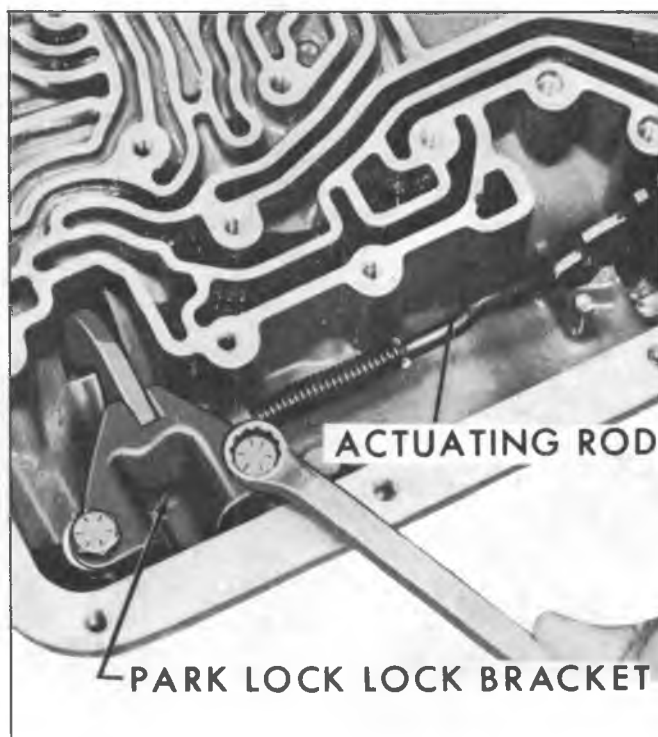

Fig. 23M—Removing Park Lock, Lock Bracket
12. Remove parking lock; lock bracket (fig. 23M). (Special Bolts).